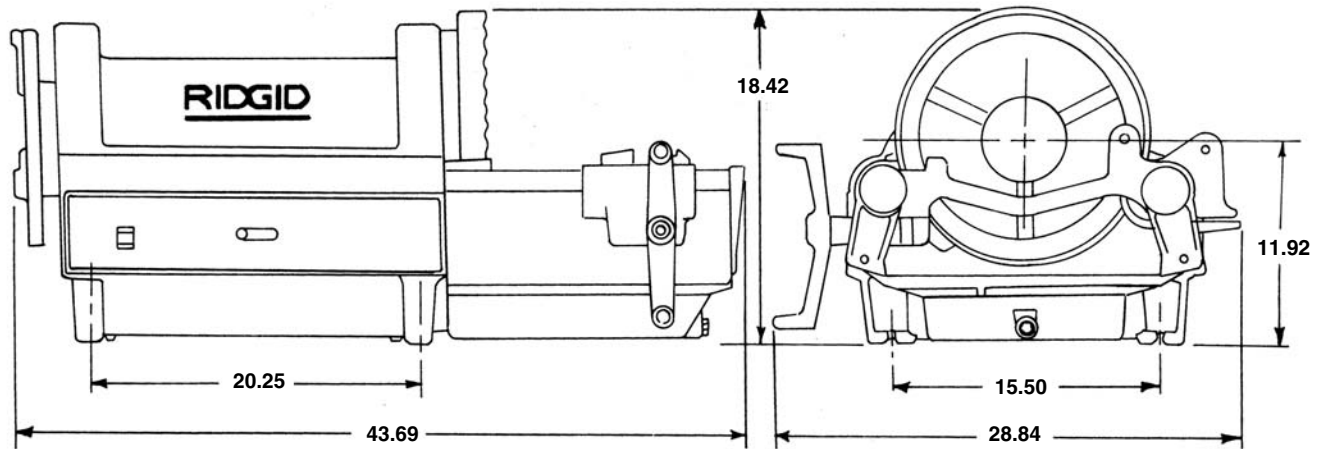

Figure 2 – 1224 Machine Dimensions
1. If a stand is not used, the machine should be mounted to a stable bench. To mount the unit on a bench, use four (4) 3/8" bolts in holes provided at each corner of machine base. Base dimensions are shown in *Figure 2*.